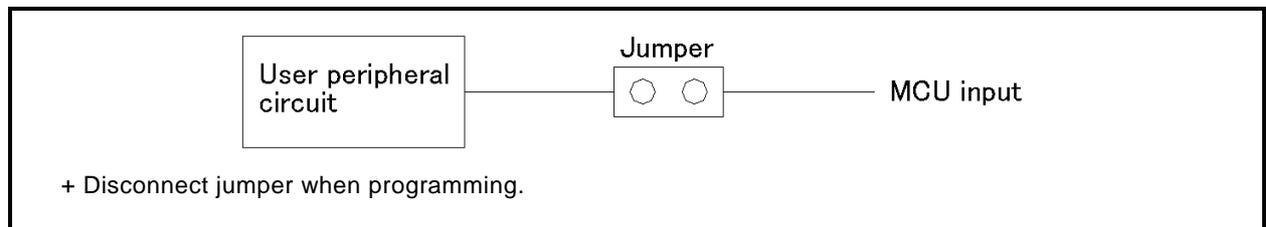

Fig.4.2: Collision Prevention Circuit Using Jumper
- 1: If the user peripheral circuit is an output circuit, you should disconnect by jumper to avoid output collision when executing serial I/O mode. (See Fig. 4.2)
An example of a collision prevention circuit when user peripheral circuit outputs is shown in Fig. 4.2.